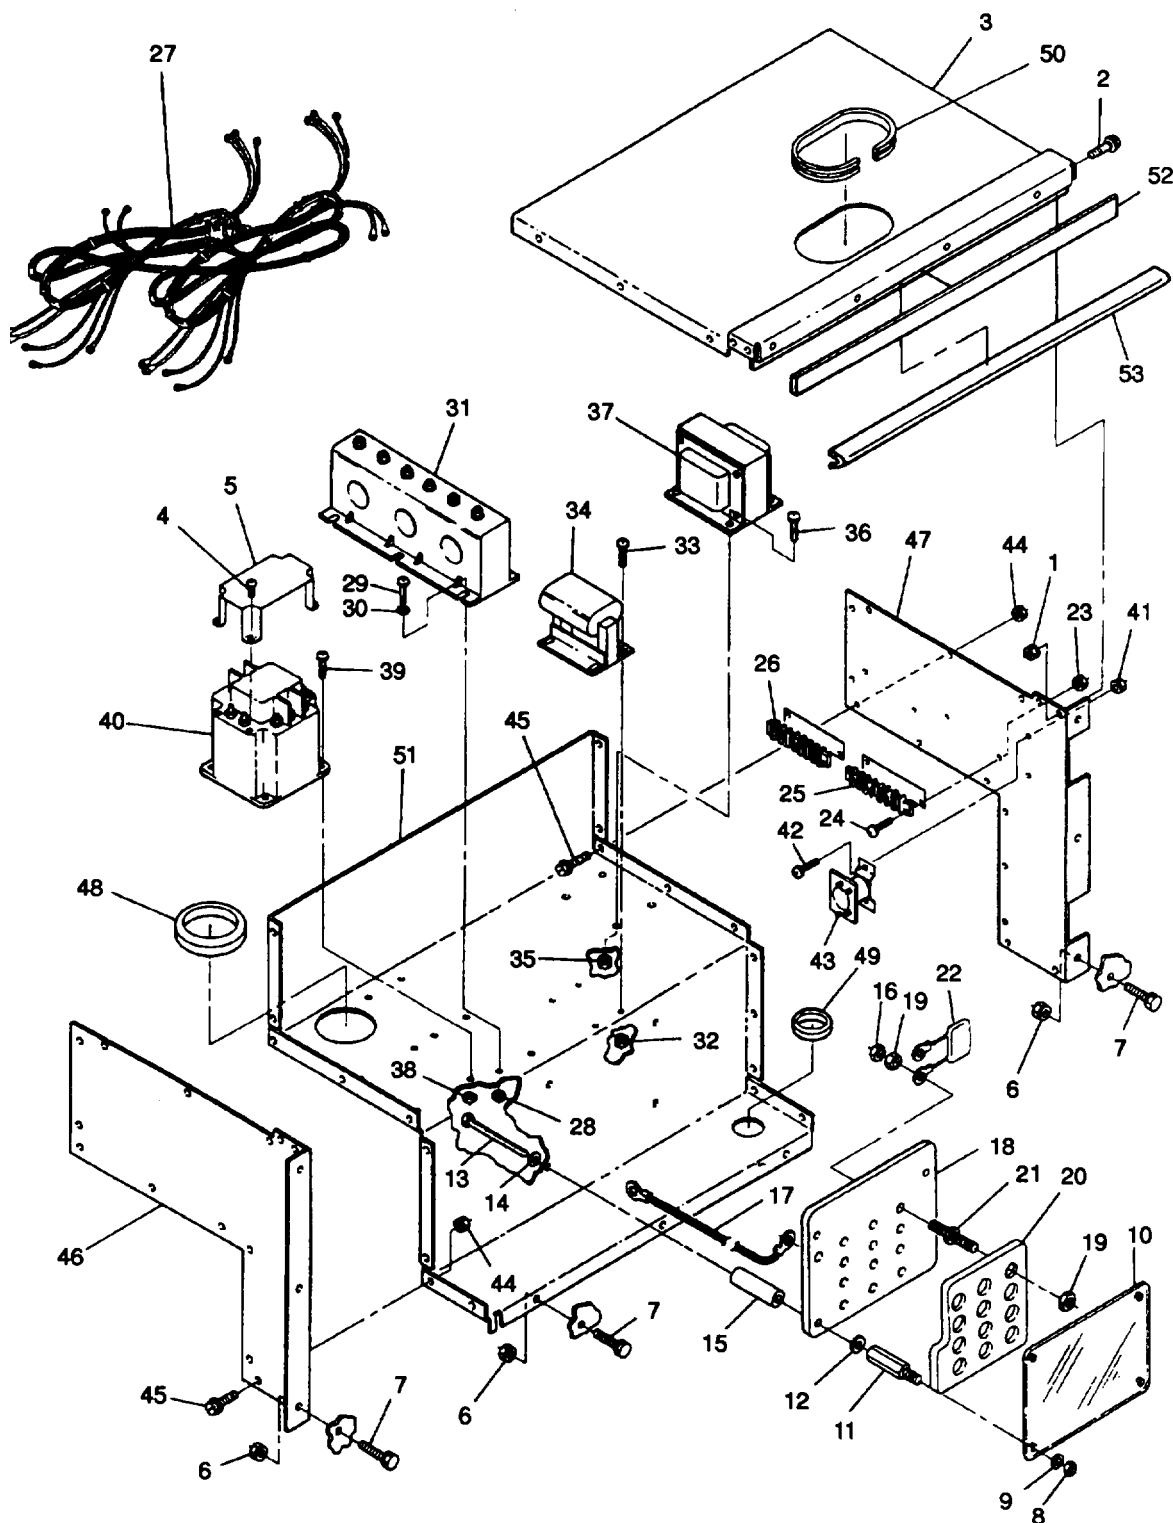

FIGURE 4-5. Output Box Assembly
- l. Remove nuts (1, FIGURE 4-5), bolts (2), and output box top panel (3) from output box assembly.
- a. Install output box assembly in generator set with bolts (7, FIGURE 4-5) and nuts (6).
- b. Connect exciter leads F1 and F2 to terminals 1 and 2 of terminal board (26), and remove tags.
- c. Connect output cables to terminals A2, B2, and C2 of AC circuit interrupter relay (40), and remove tags.
- d. Install cover (5) on AC circuit interrupter (40) with screws (4).
- e. Install main generator cables onto current transformer (31) and droop current transformer (34) the same number of wraps recorded during removal.
- d. Remove nuts (8, FIGURE 4-5), washers (9), and cover (10) from voltage reconnection board (18).
- e. Unscrew standoffs (11) and remove washers (12), bolts (13), washers (14), and mounts (15).
- f. Remove nuts (16), tag and disconnect electrical cables (17) and main generator cables from voltage reconnection board (18).
- g. Remove voltage reconnection board (18) and moveable terminal board (20) from generator set as assembly.
- h. Tag position of capacitors (22) on voltage reconnection board (18).
- i. Remove nuts (19), movable terminal board (20), studs (21), and capacitors (22) from voltage reconnection board (18).
- a. Insert studs (21, FIGURE 4-5) in voltage reconnection board (18). Position capacitors (22) as tagged, align moveable terminal board (20) with voltage reconnection board (18) and install nuts (19). Remove tags.
- b. Position voltage reconnection board (18) and moveable terminal board (20) in generator set.
- c. Connect electrical cables (17) and main generator cables to voltage reconnection board (18) with nuts (16) and remove tags.
- d. Secure voltage reconnection board (18) to generator set with bolts (13), washers (14), mounts (15), washers (12), and standoffs (11).
- e. Install cover (10) with washers (9) and nuts (8).
- g. Open output box access door, remove screws (4, FIGURE 4-5), and cover (5) from AC circuit interrupter relay (40). Tag and disconnect electrical leads from cranking relay (43), current transformer (31), AC circuit interrupter relay (40), power potential transformer (37), and voltage reconnection board (18).
- h. Tag and disconnect electrical leads for droop current transformer (34) from terminal board (25).
- i. Remove screws (24) and nuts (23) securing terminal boards (25) and (26) in output box.
- k. Remove output box harness (27) from output box and generator set.
- a. Position output box harness (27, FIGURE 4-5) in output box and generator set.
- c. Secure terminal boards (25) and (26) in output box with screws (24) and nuts (23).
- d. Connect electrical leads for droop current transformer (34) to terminal board (25) and remove tags.
- e. Connect electrical leads to AC circuit interrupter relay (40), current transformer (31), cranking relay (43), power potential transformer (37), and voltage reconnection board (18). Remove tags, install cover (5) on AC circuit interrupter relay (40), and close output box access door.
- f. Tag and disconnect current transformer (31, FIGURE 4-5) electrical leads.
- g. Tag and disconnect main generator cables T2 and T8 from voltage reconnection board (18).
- h. Unwrap main generator cables from droop current transformer (34) and current transformer (31). Note number and direction of wraps.
- i. Remove screws (29), flat washers (30), nuts (28), and current transformer (31) from output box.
- a. Install current transformer (31, FIGURE 4-5) with screws (29), flat washers (30), and nuts (28).